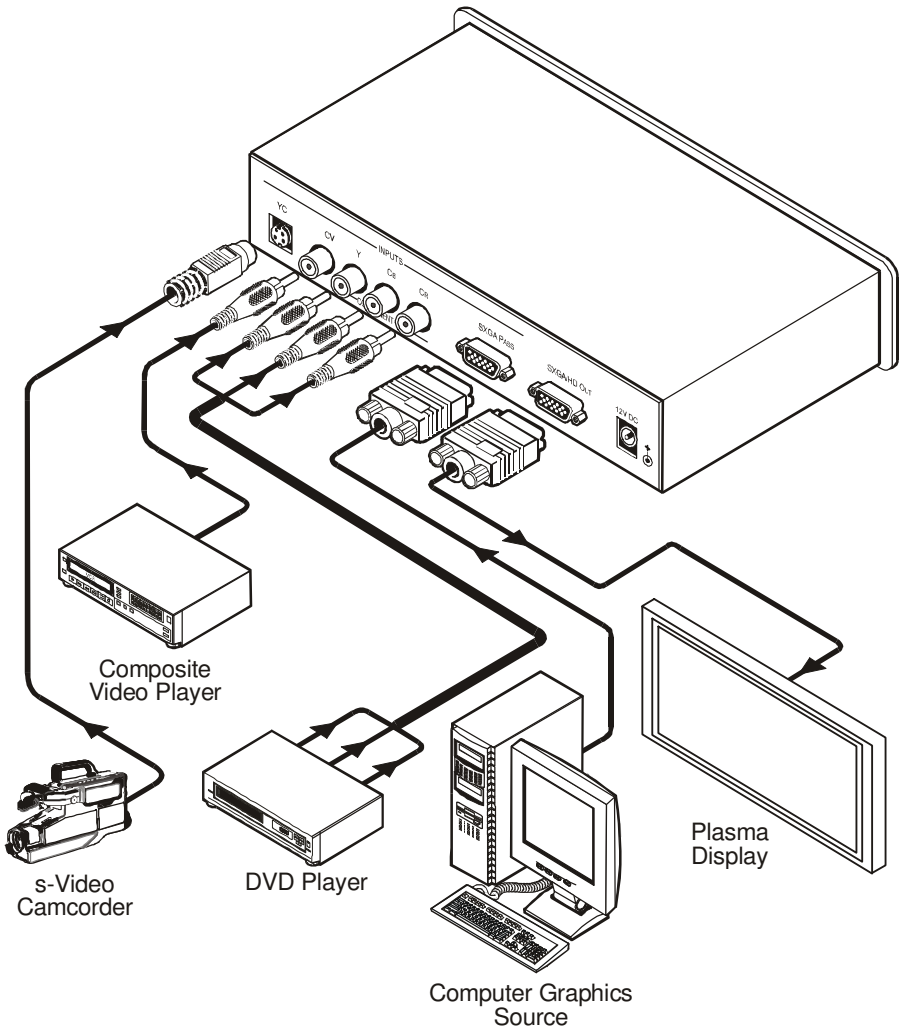

Figure 2: Connecting the VP-419xl Video To SXGA/HD Scaler
Connect¹ your **VP-419xl**, as illustrated in the example in Figure 2:
6. Connect the 12V DC power adapter to the power socket and connect the adapter to the mains electricity (not shown in Figure 2).